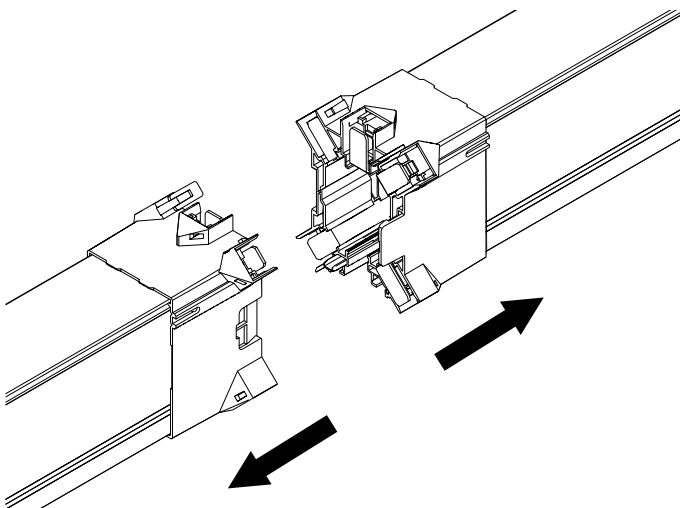

Fig. 117: Slide conductor rails apart
- Slide the conductor rails apart (see Fig. 117).